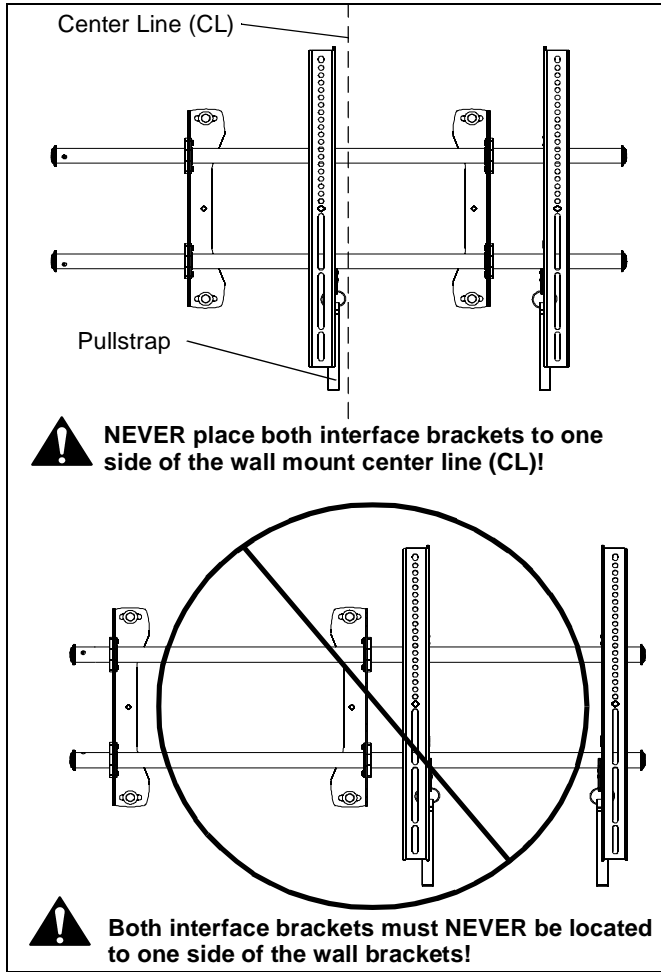

Figure 7
1. Adjust Velcro® pull strap (if necessary) so it does not extend beyond bottom of screen. (See Figure 7)
**NOTE:** Do NOT allow both interface brackets to be located on same side of wall bracket. (See Figure 7)
**NOTE:** NEVER place both interface brackets to one side of the wall mount center line! (See Figure 7)